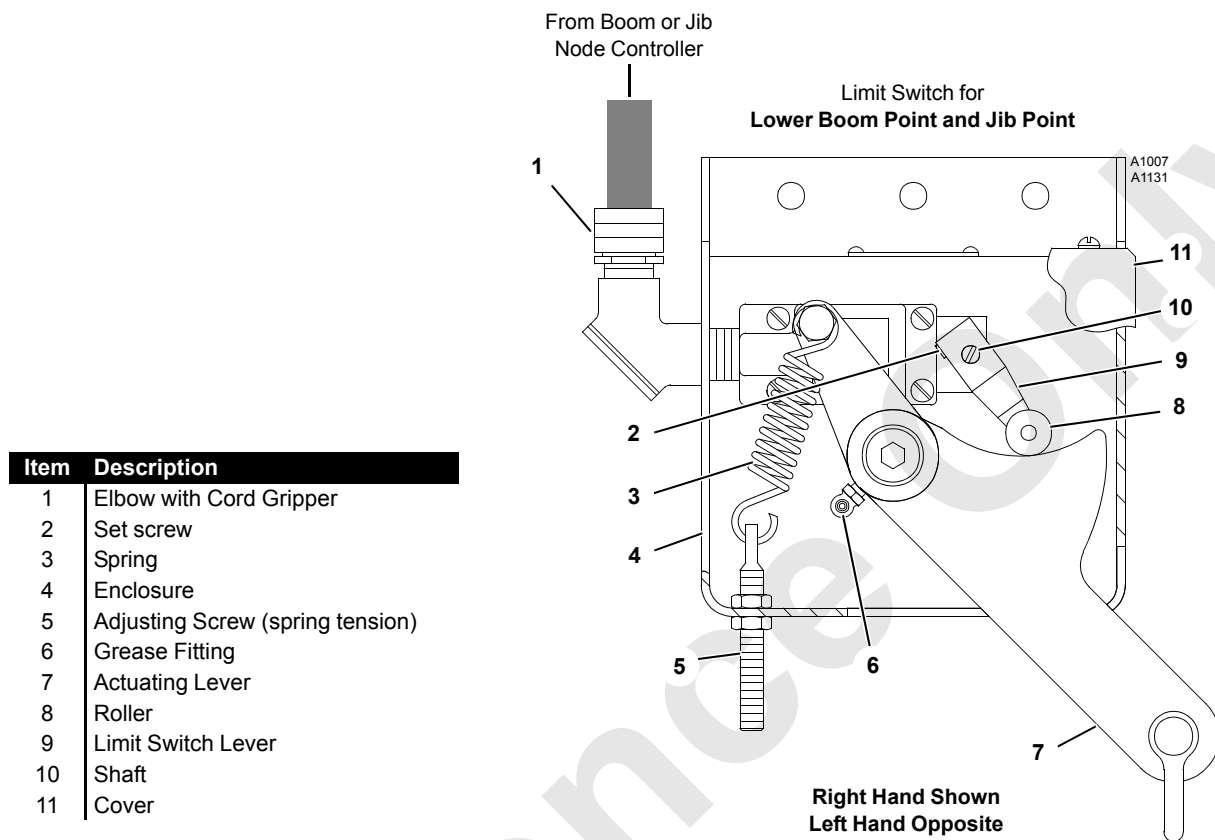

FIGURE 5-5
See Figure 5-4 and Figure 5-5 for component identification.
See Figure 5-5 for the following procedure.
4. Hold the actuating lever at the position shown in Figure 5-5.